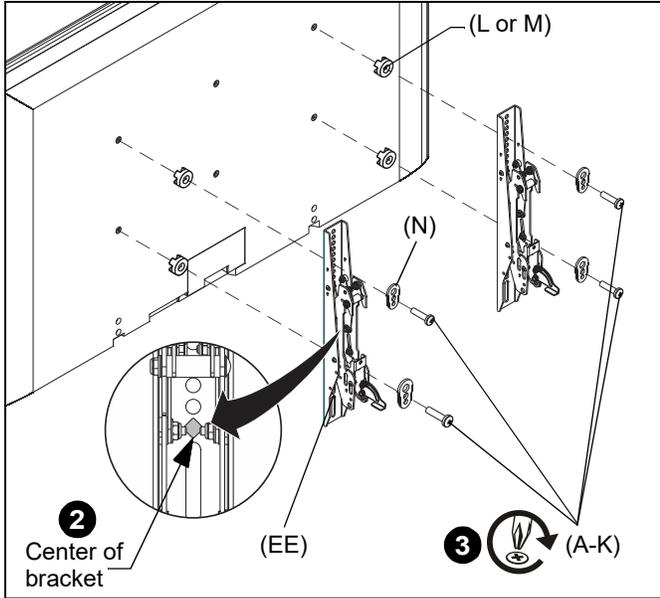

Figure 16
- Align the center of the interface bracket (EE) with center of screen. (See Figure 16)